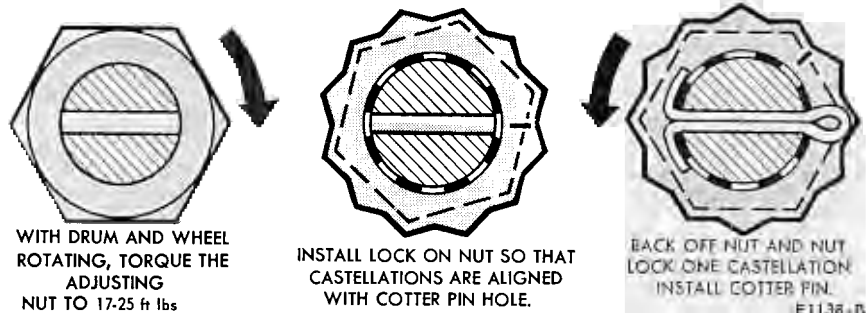

FIG. 3—Front Wheel Bearing Adjustment
5. While rotating the wheel, hub, and drum or rotor assembly, torque the adjusting nut to 17-25 ft-lbs to seat the bearings (Fig 3).